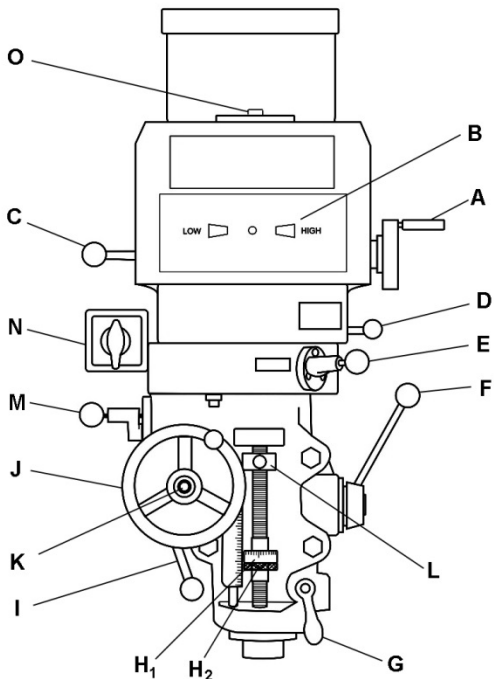
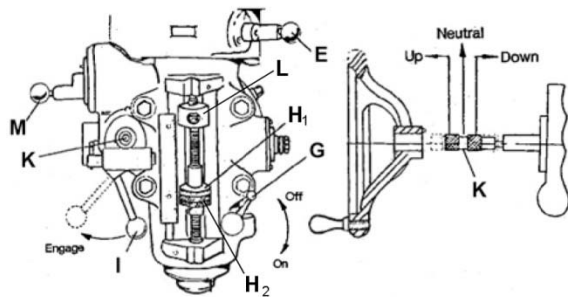

Figure 5: Controls
Figure 8: Manual feed controls
2. Apply upward pressure on motor by hand to relieve pressure on worm mechanism, and use supplied wrench to turn worm nut (B, Figure 8) and raise head to upright position.
Refer to Figure 5.
- A. **Variable speed control** (A, Figure 5) – located on right side of head assembly. Turn clockwise or counterclockwise to adjust spindle speed.
- F. **Coarse feed handle** (F) - located on right side of head. Used for non-precision drilling operations and for moving quill to a specific depth. Rotate clockwise to lower spindle. A return spring will retract spindle automatically once handle is released.
- G. **Quill lock** (G) - located on right side of head. Rotate handle clockwise to lock quill in desired position. Rotate handle counterclockwise to release.
- I. **Feed trip control lever** (I) - located on left side of head. Engages overload clutch on pinion shaft when lever is positioned to the left. Stays engaged until quill stop comes into contact with micrometer adjusting nut (forcing feed control lever to drop out automatically), or until lever is released manually by positioning lever to the right.
- J. **Manual feed handwheel** (J) – located on left front of head. Feed direction control knob (K) must be in neutral position. The feed control lever (I) must be engaged. **Note:** Manual feed handwheel may be taken off when not in use.
- K. **Feed direction control** (K) – located in center of manual feed handwheel. Position of knob depends upon direction of spindle rotation. If boring with right hand cutting tools, pull feed knob towards operator until
clutch becomes engaged. Neutral position is between forward and reverse position. (Refer to Figure 8 and accompanying text for further detail.) If control does not engage easily, move handwheel (J) back and forth to aid engagement.
- L. **Quill stop (L)** – located on front of head. Used to disengage automatic feed in either direction as well as the setting point for working to a given depth.
- M. **Quill feed speed selector (M)** – located on left side of head. Pull knob out and locate handle over choice of three feed speeds (0.0015", 0.003", and 0.006") per spindle revolution. The selector shifts into engagement more easily when the spindle is rotating.
- N. **On/Off/Reverse switch (N)** – located on left side of head. Turns spindle on and off, and changes rotation direction of spindle.
- O. **Drawbar (O)** – located on top of head. Used to secure tool holder in the taper. Use the spindle brake (C) while tightening drawbar.
To change from high to low speed range, push in lever (D, Figure 5) and rotate it almost 180 degrees. Lever will stay in position once pressure is released.
Refer to Figure 8.
1. Disengage automatic feed by pulling out knob (E, Figure 8) and moving lever to the right hole.
2. Position feed reversing knob (K) to the center, or neutral, position.
3. Engage feed trip lever (I) by pulling away from the head assembly.
4. The quill can now be moved up or down by turning handwheel (J, Figure 5).
3. Disengage feed trip lever (I) by pushing towards head assembly.
4. Use coarse feed handle (F, Figure 5) to move the spindle.
Refer to Figures 5 and 8.
2. Tighten quill lock (G, Figure 8).
3. Screw the micrometer nut ( $H_1$ ) against quill stop (L), and tighten micrometer jam nut ( $H_2$ ).
4. Loosen quill lock (G).
1. Ensure quill lock (G, Figure 8) is loosened by rotating counterclockwise.
2. Set micrometer nut (H) to desired depth.
3. Engage auto feed lever by pulling out lock knob (E) and moving lever to the left hole.
4. Select feed direction by setting feed direction knob (K) position per Table 2.
5. Select feed rate from feed selector knob (M) 0.0015", 0.003", and 0.006" per spindle revolution. It is easier to change feed rate while the spindle is turning.